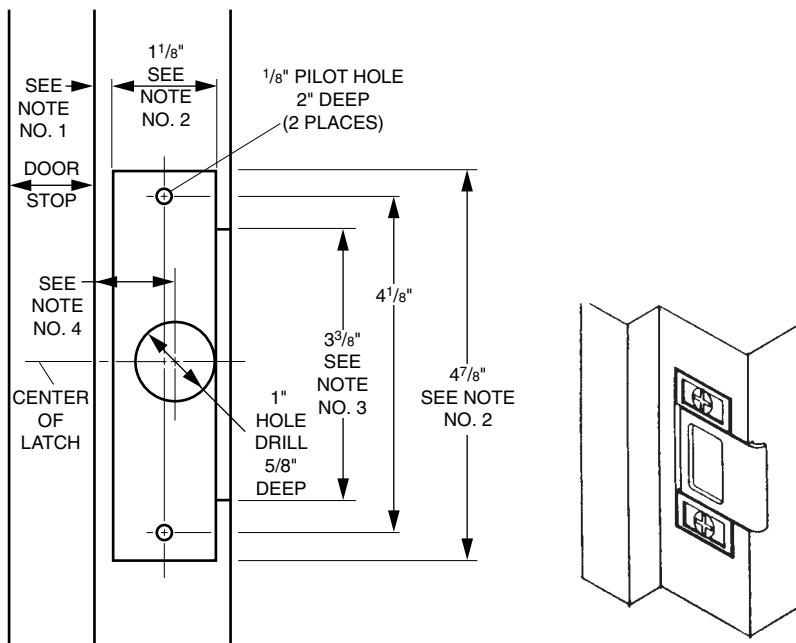

Figure 13.56 Jamb preparation and completed installation of Model 452 for a 1 1/4-inch door. (M.A.G. Engineering and Mfg., Inc.)
1. For $1\frac{3}{4}$ -inch door, start the cutout $\frac{5}{16}$ inch away from the door stop; for $1\frac{5}{8}$ -inch door, start cutout on the edge of door stop (Fig. 13.56).